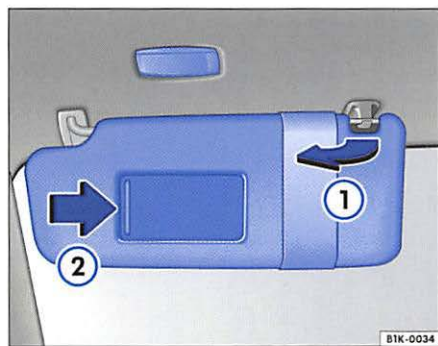

Fig. 32 Sun visors on the driver side
The sun visor for the driver and the front passenger can be pulled out of its retaining clip in the center of the vehicle and turned toward the doors  fig. 32 ①. Once the sun visor is turned toward the door it can be adjusted in length by pulling it to the rear.